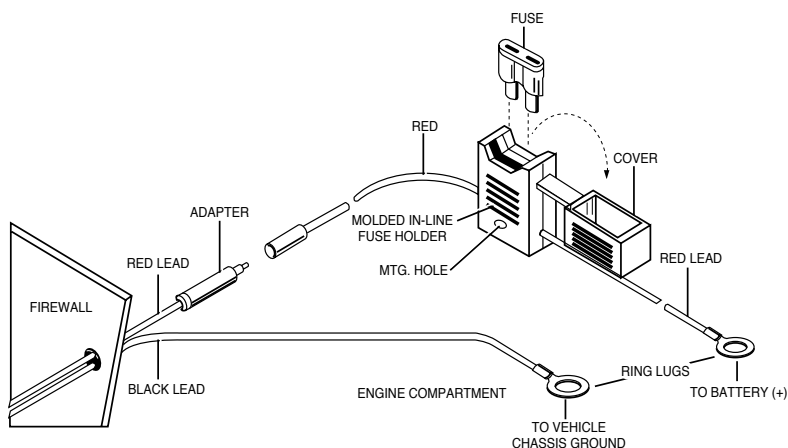

Figure 2. DC Power Cable Assembly
- (4) Locate the nearest available vehicle chassis-ground mounting point and shorten the black lead to remove excess cable length.
- (5) Install ring lugs (supplied) onto the stripped end of the power cable black lead. Also install a ring lug onto the stripped end of the red lead on the fuse holder as shown in Figure 2.
- (6) Locate the fuse holder as close to the battery as possible and away from any hot-engine component. Mount the fuse holder using the provided mounting hole and dress wires as necessary. Connect the fuse holder red-adapter-lead plug to the mating receptacle on the red lead of the power cable as shown in Figure 2.